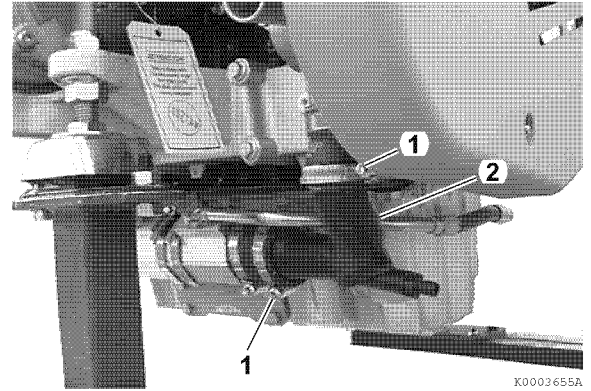

Figure 7-11
2. Loosen clamps (1, **Figure 7-11**) and remove seawater pipe (2, **Figure 7-11**).
5. Install seawater pipe (2, **Figure 7-11**) and tighten clamps (1, **Figure 7-11**).